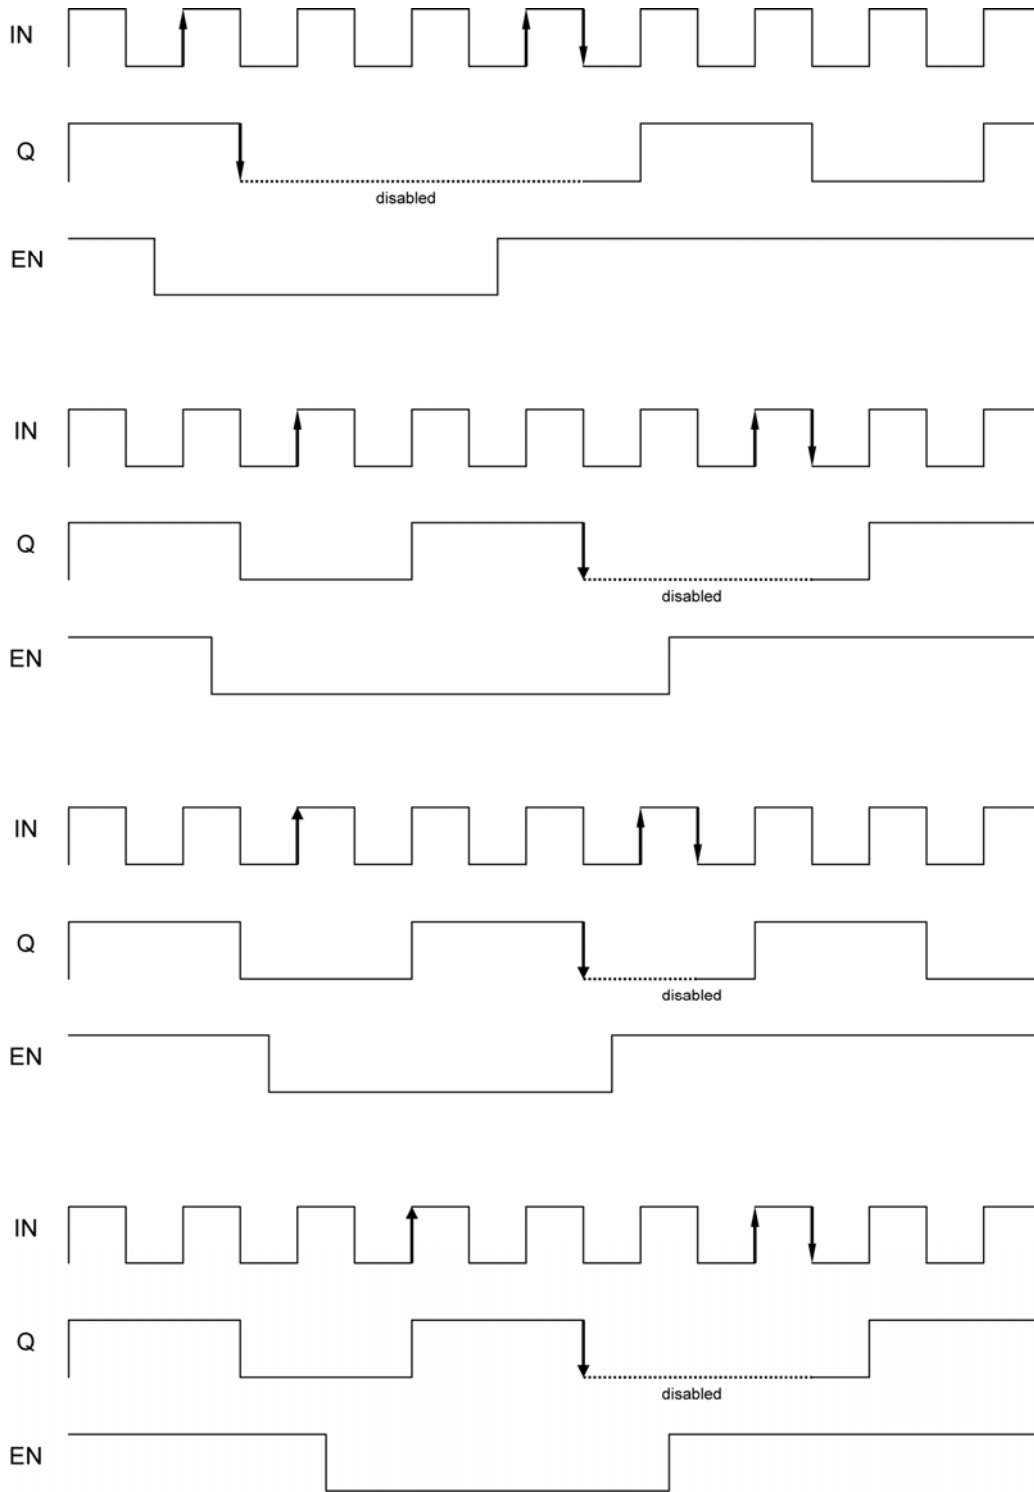

Figure 1b. Enable Output Timing Diagram Examples
2. The enable/disable function always guarantees the full pulse width at the output before the clock outputs are disabled, non-dependending on the divider ratio. Refer to Figure 1b for examples.